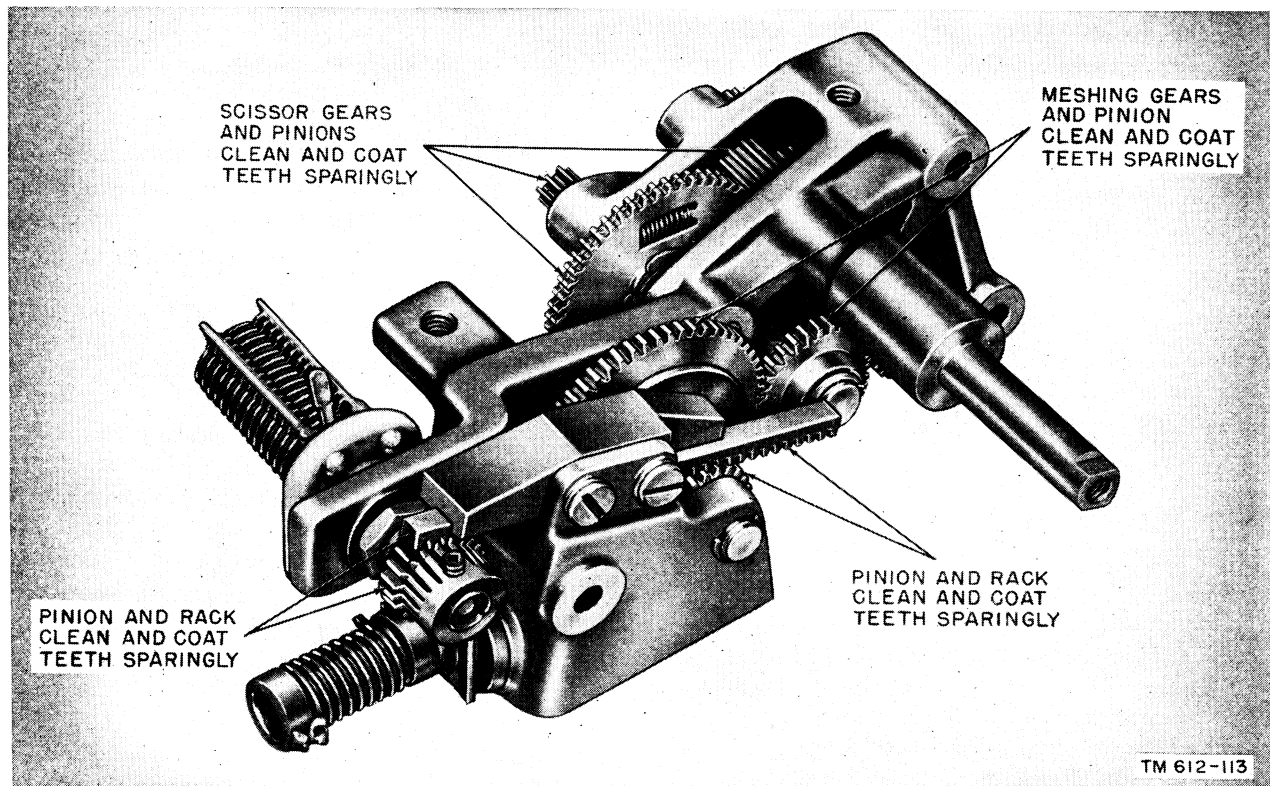

Figure 17. Radio Sets AN/PRC-9 and -10, lubrication points.
- (1) The dial-drive mechanism is the only assembly requiring lubrication, and this is lubricated every 3 months.
- (2) The lubricant and points to be lubricated (figs. 17, 18, 19, and 20) must be clean and free of sand, grit, and dirt. Gasoline
as shown in figures 17 through 20. Work in and spread the lubricant by turning the dial knob from one end of travel to the other several times during the process. Wipe off excess lubricant on the sides of the gears, pinions, and racks.